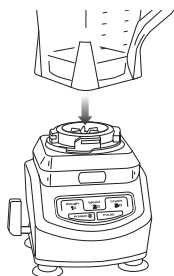

Fig. 1
- 1 Place the motor base on a clean, dry, level surface such as a counter or table top. (Fig. 1)
- 2 Lower the pitcher or the bowl onto the motor base. (Fig. 1)